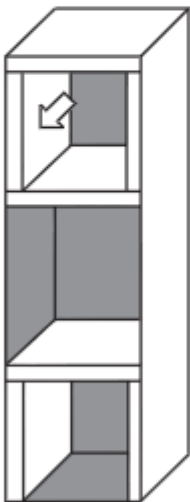

fig. 5
7. Install the TUF-COTE® TBK Faced Foam to the inside of the housing and over the vibration control tape (fig. 5).